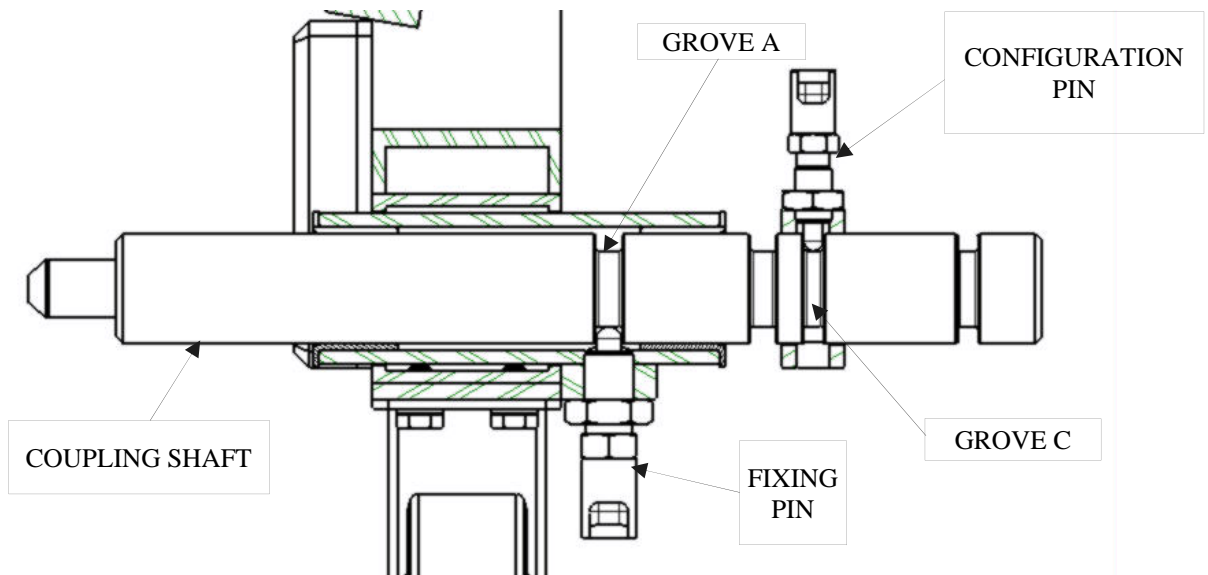
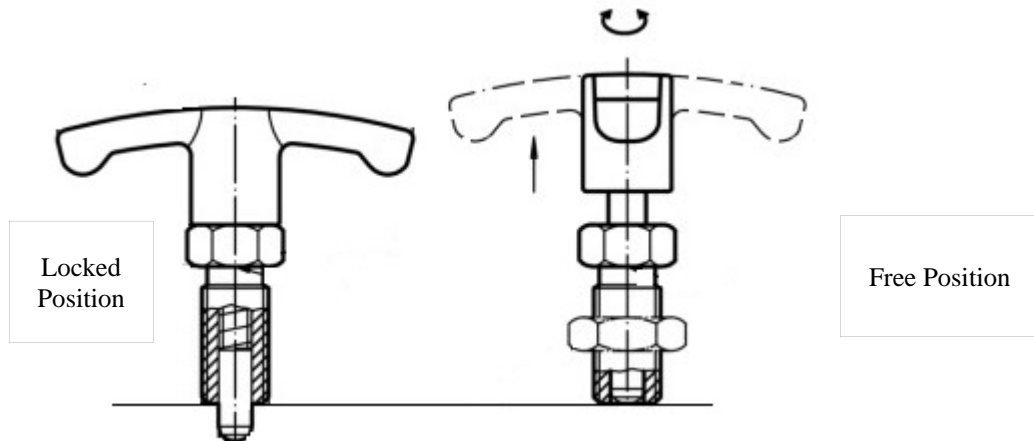

Figure 15: Tow Bar Assy: coupling device set for landing gear with PAD/SKI
Figure 17: Configuration pin: Locked and free position
1. Fixing the configuration pins in the green colored groove C (see Figure 15 and Figure 17).
- Pull the knob of the configuration pin and rotate it by 90° (pin disengaged, see Figure 17).